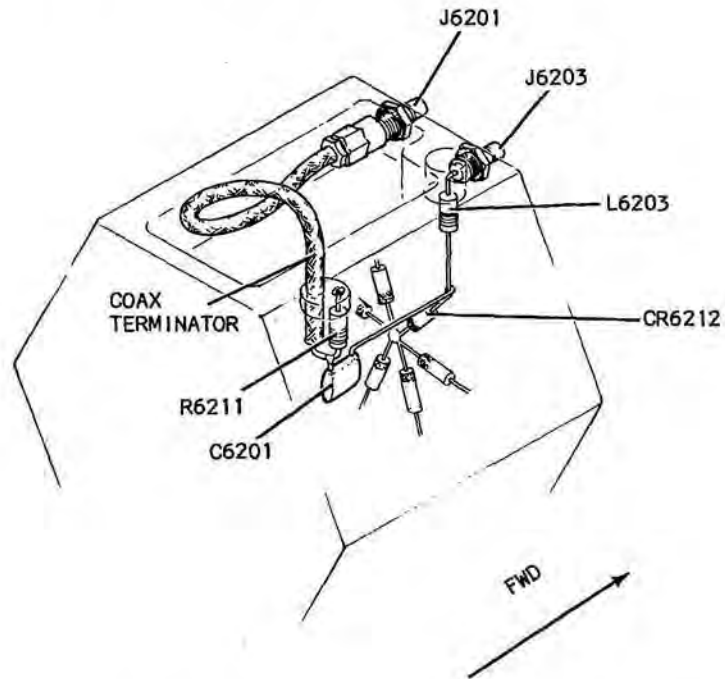

Figure 7-9 Internal View of Top and Rear of High Frequency Multiplier/Mixer
13. To remove R6211 (10), C6201 (56), or coax terminator (9) (See Figure 7-9):
14. To remove L6203 (See Figure 7-9):
- a. Desolder junction of L6203 (55), C6201 (56), and CR6212.